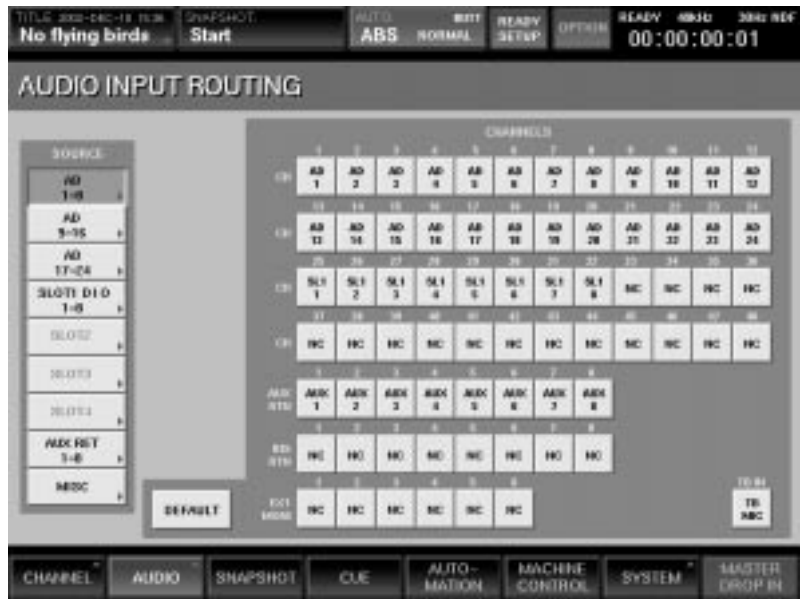

Figure 1
- 7** Go to the Audio Input Routing window and press the Default button. Then go to the Audio Output Routing window and do the same. Following this procedure, the windows should look like this: (See Figures 1 and 2)